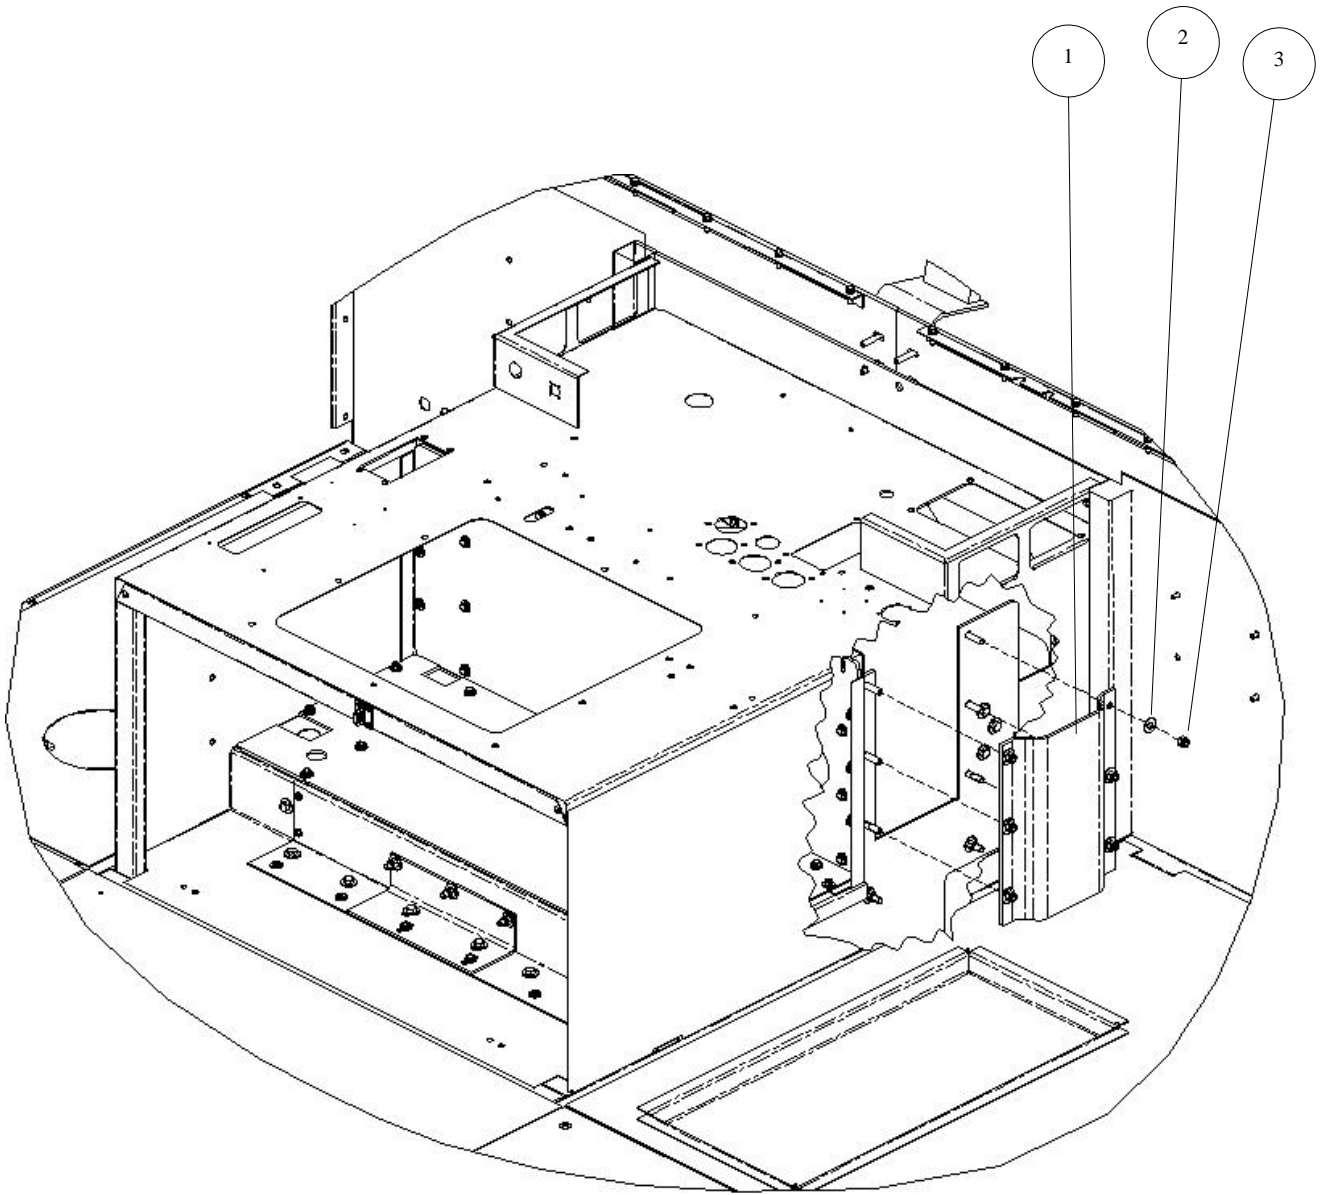

Figure 3-76. Doghouse Access Panel Installation.
8. Install Doghouse Access Panel as follows (see Figure 3-76).
- a. Install doghouse access panel (1) onto studs using six flat washers (2) and locknuts (3). Torque nuts to 23 lb-ft